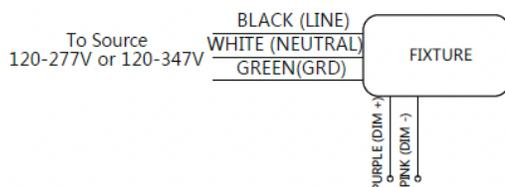

Fig. 4
4. Turn off the power and connect wiring by using wire nuts according to the wiring diagram (Fig. 4).
4. Turn off the power and connect wiring by using wire nuts according to the wiring diagram (Fig. 4) (See reverse).